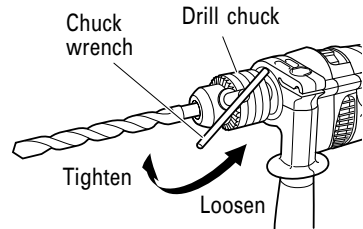

Fig. 2
**For Drill chuck with chuck wrench** (Fig. 2)
- (1) Open the chuck jaws, and insert the bit into the chuck.
- (2) Place the chuck wrench in each of the three holes in the chuck, and turn it in the clockwise direction (viewed from the front side). Tighten securely.
- (3) To remove the bit, place the chuck wrench into one of the holes in the chuck and turn it in the counterclockwise direction.